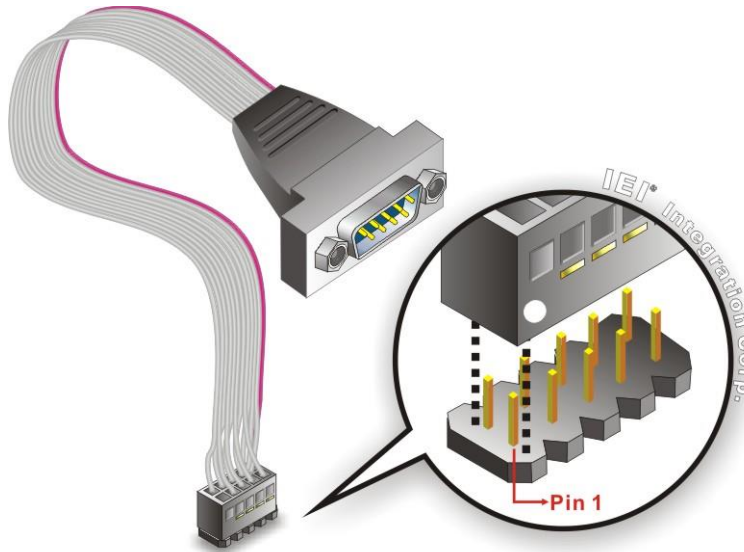

Figure 4-12: Single RS-232 Cable Installation
- Step 2:** **Insert the cable connector.** Align the cable connector with the onboard connector. Make sure pin 1 on the board and connector line up. Pin 1 on the cable connector is indicated with a white dot. See **Figure 4-12**.